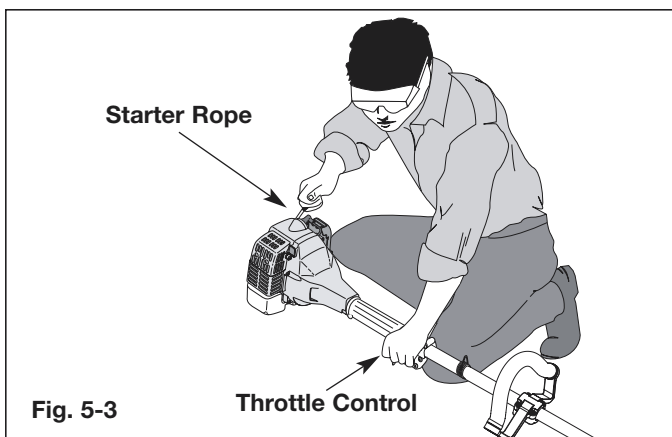

Fig. 5-3
5. With the unit on the ground, squeeze the throttle control and hold. Pull starter rope briskly (Fig. 5-3). Continue pulling until the engine sounds as though it wants to run (normally 2 to 5 pulls).
7. Pull starter rope briskly 1 to 3 times to start the engine (Fig. 5-3).
1. Release your hand from the throttle control (Fig. 5-3). Allow the engine to idle.